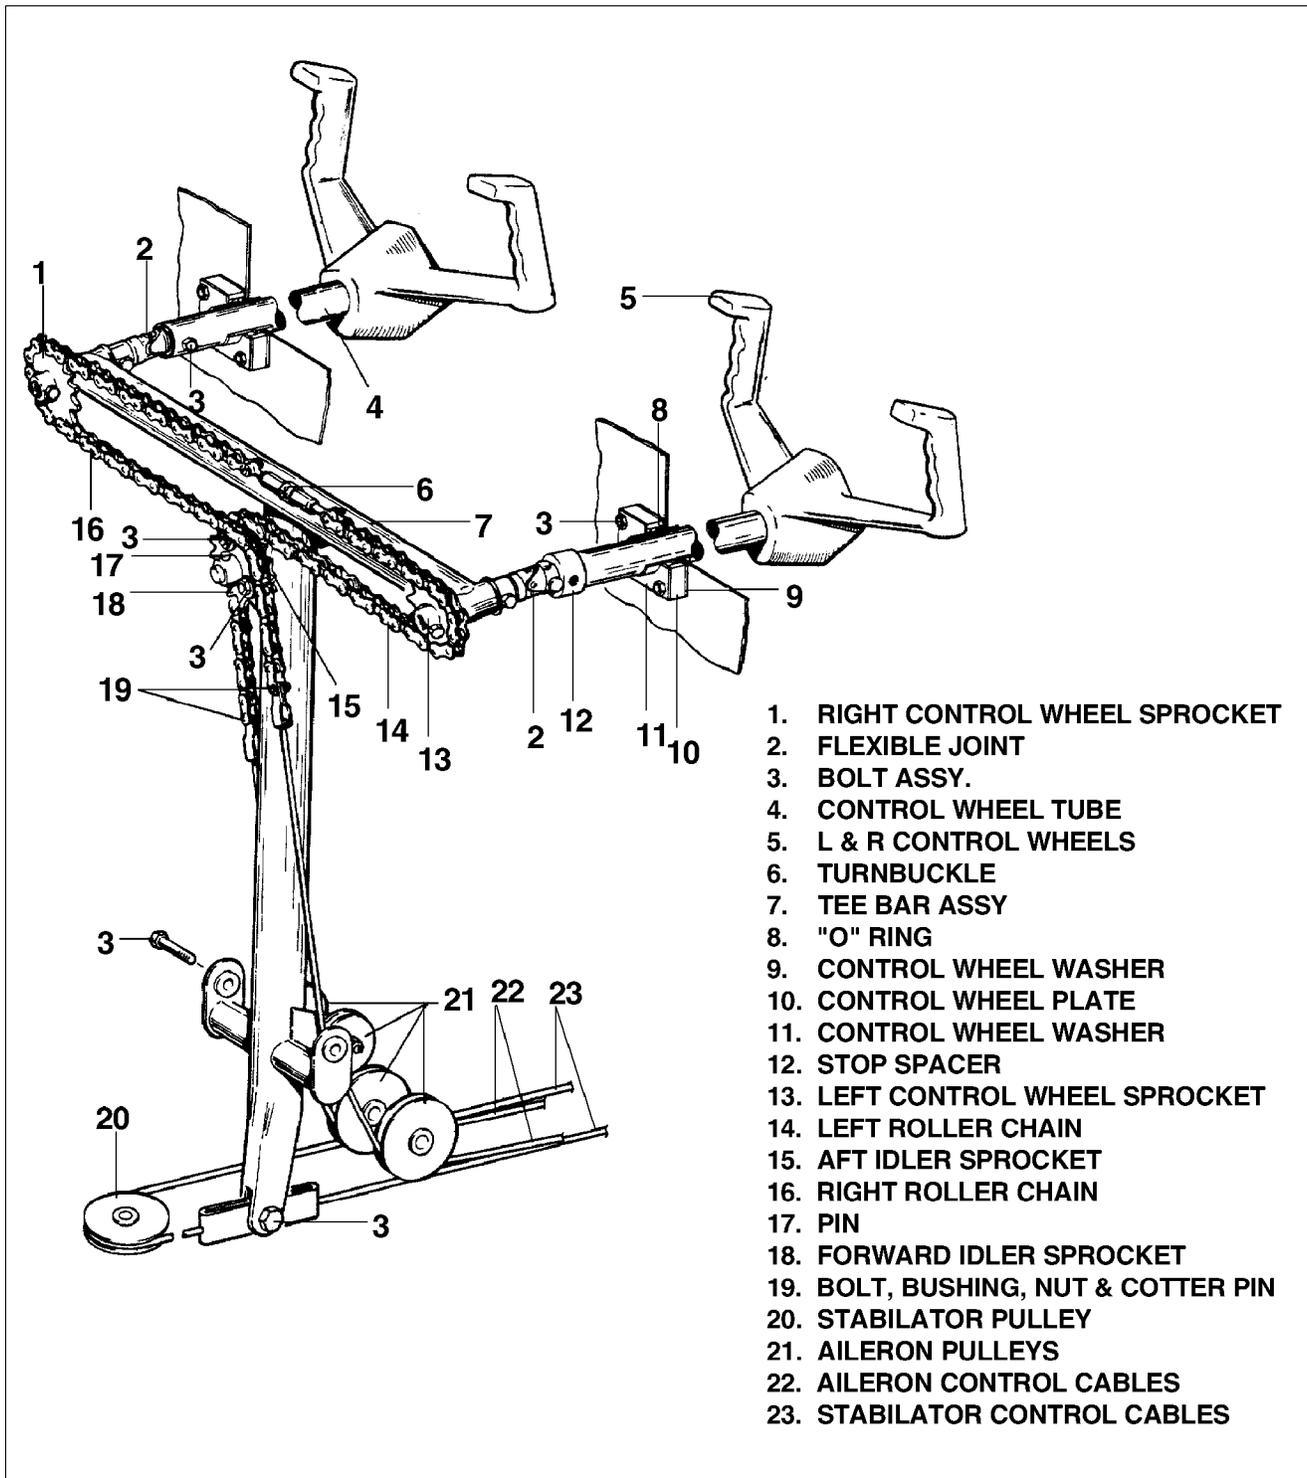

Figure 27-6. Control Column Assembly
**B. Control Column Removal (Refer to Figure 27-6.)**
1. To install of tee bar assembly (Refer to Figure 27-6.)
2. To install either control wheel assembly (Refer to Figure 27-6.)
3. To install flex joint replacement (Refer to Figures 27-6 and 27-7)